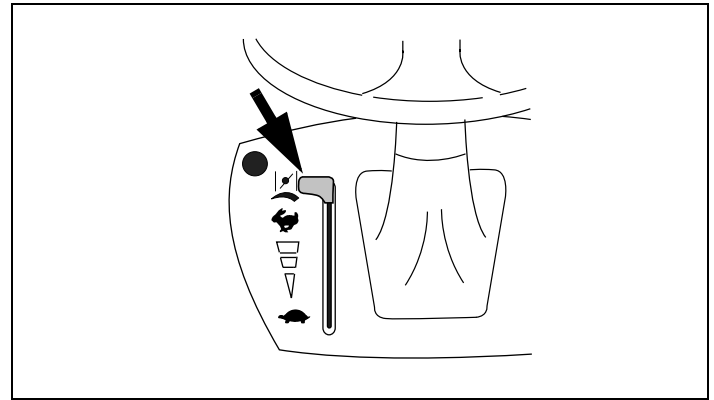

Figure 8. Combined Speed and Choke Control
2. Move Combined Control to "CHOKE" or "START" (see equipment manufacturer's instructions). See Figures 8 and 9.
If restarting a warm engine after a short shutdown, move Combined Control to "FAST" instead of "CHOKE" or "START" position. See Figures 8 and 9.